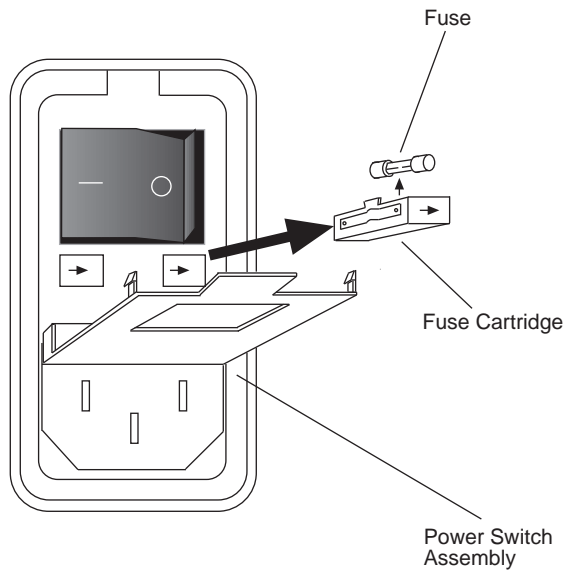

Figure 7-2 Removing and Replacing the AC Power Fuses
- 3 Remove the fuse cartridge from the fuseholder. See Figure 7-2.
- 4 Pull the fuse out of the cartridge and inspect the wire. If the wire is broken, install a new fuse. See Figure 7-2.
- 1 Insert a new 4-amp fuse into the cartridge. See Figure 7-2.